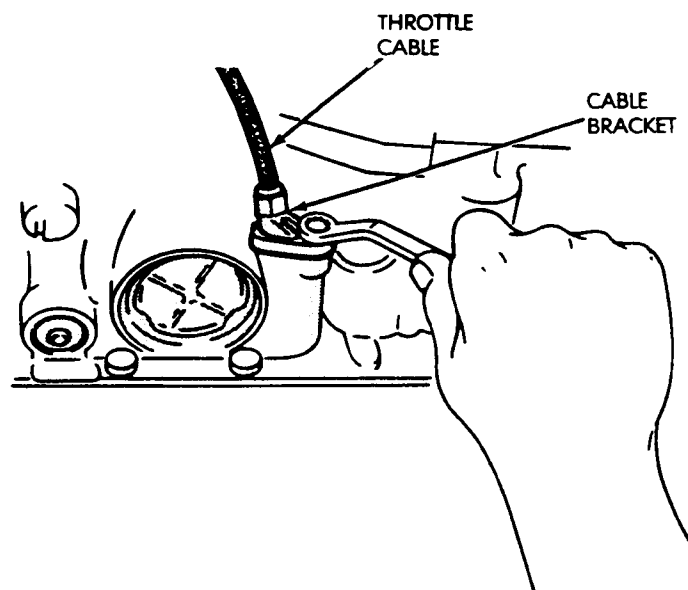

Fig. 28 Removing/Installing Cable And Bracket
- (5) Remove cable bracket bolt and remove cable and bracket from case (Fig. 28).
- (6) Remove and discard cable seal.
- (4) Install cable bracket on case and tighten attaching bolt to 10 N·m (7 ft-lbs) torque (Fig. 28).